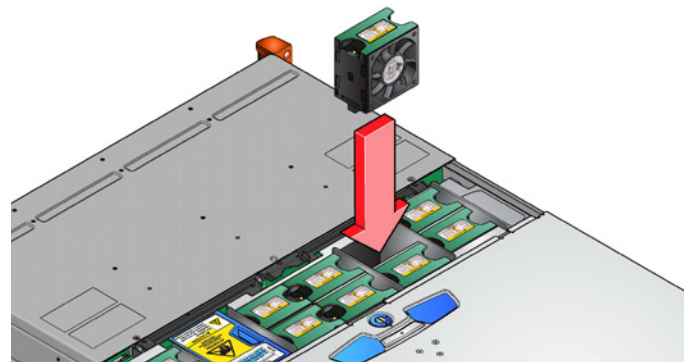

Fig. 37 - Cooling Fan Installation
2. Grip the fan and push it all the way into the enclosure until it fits firmly and is level with the other fans (see Fig. 37). The fan plugs into the EM Card.